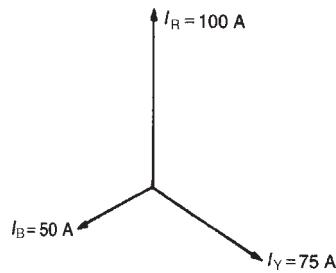

Figure 20.8
- (b) The three line currents are shown in the phasor diagram of Fig. 20.8. Since each load is resistive the currents are in phase with the phase voltages and are hence mutually displaced by 120° . The current in the neutral conductor is given by $I_N = I_R + I_Y + I_B$ phasorially.